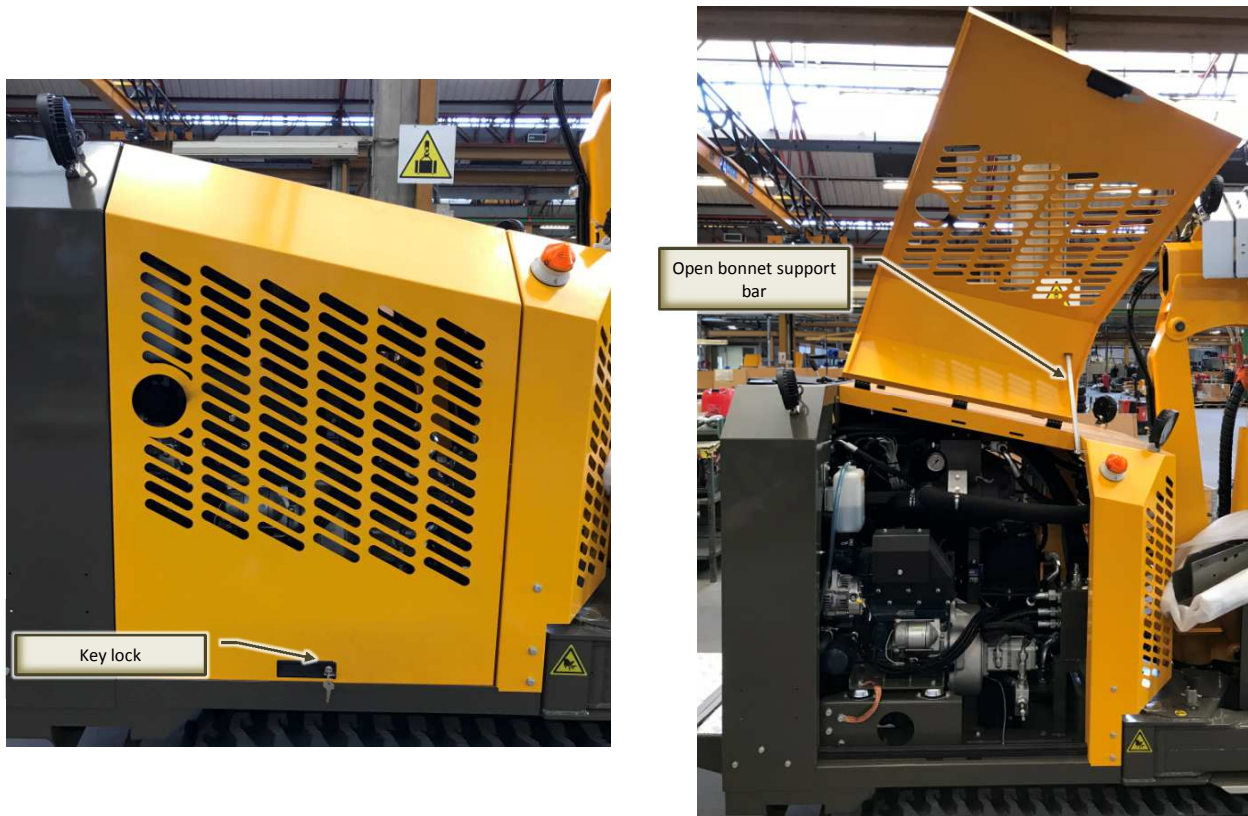

Fig. 6.3-2 - Motor compartment bonnet with key lock in closed (left) and open (right) position – right side view
- **Fixed guard** - guard kept in position (i.e. closed) permanently (by welding, etc.) or by means of fixing elements (screws, nuts, etc.) which make it impossible to remove/open without the use of tools (Fig. 6.3-2);